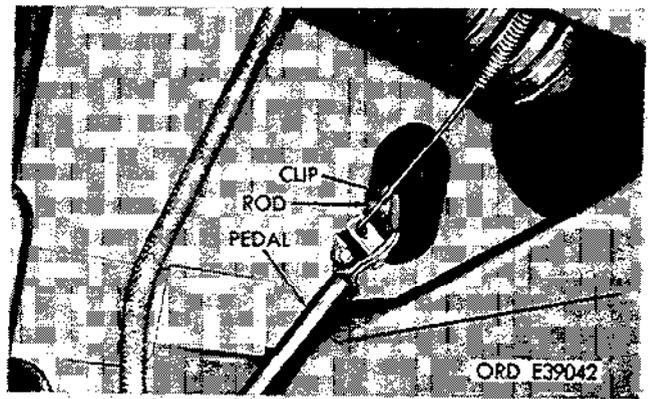

Figure 2-100. Remove rod to pedal clip.
(2) Remove accelerator road to pedal clip (fig. 2-100).